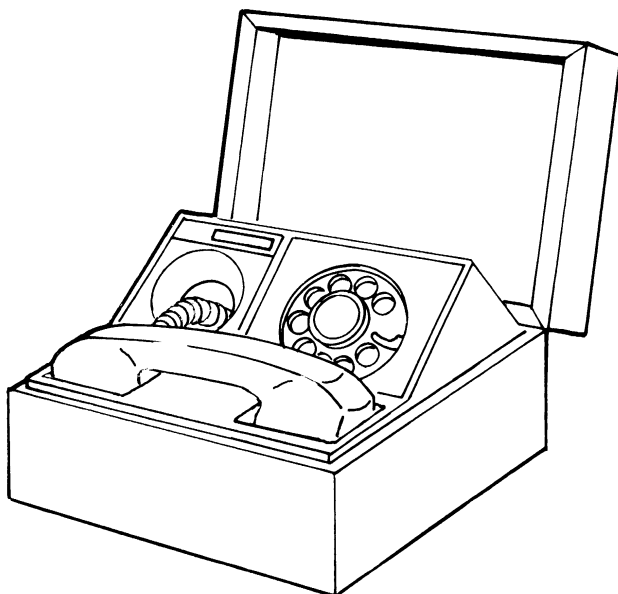

Figure 2. Chestphone.
2.04 The Chestphone (Figure 2) is a self-contained telephone housed in a wooden chest approximately 5-1/4 inches high, 10-3/4 inches wide, and 8 inches deep.